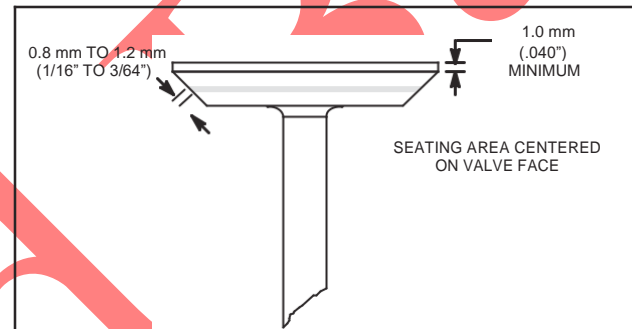
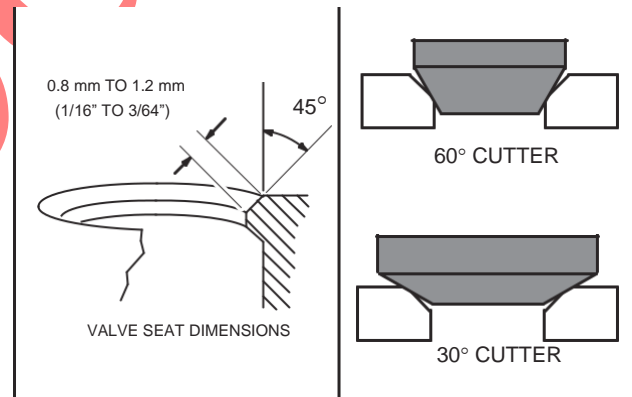

Fig. 20 – Valve Dimensions
Fig. 21 – Valve Seat Dimensions
- Valve faces may be resurfaced to  $45^\circ$ . See Fig. 20 for dimensions for valves. Lap valves and seats with valve lapping Tool, #19258 and valve lapping compound, Tool #94150.
If valve seat is wider than dimension shown in Fig. 21, a narrowing cutter should be used to ensure that contact area of valve seat is centered on face of valve, Fig. 20.
- Use a  $60^\circ$  cutter to narrow seat from bottom and a  $30^\circ$  cutter to narrow seat from top, Fig. 21.